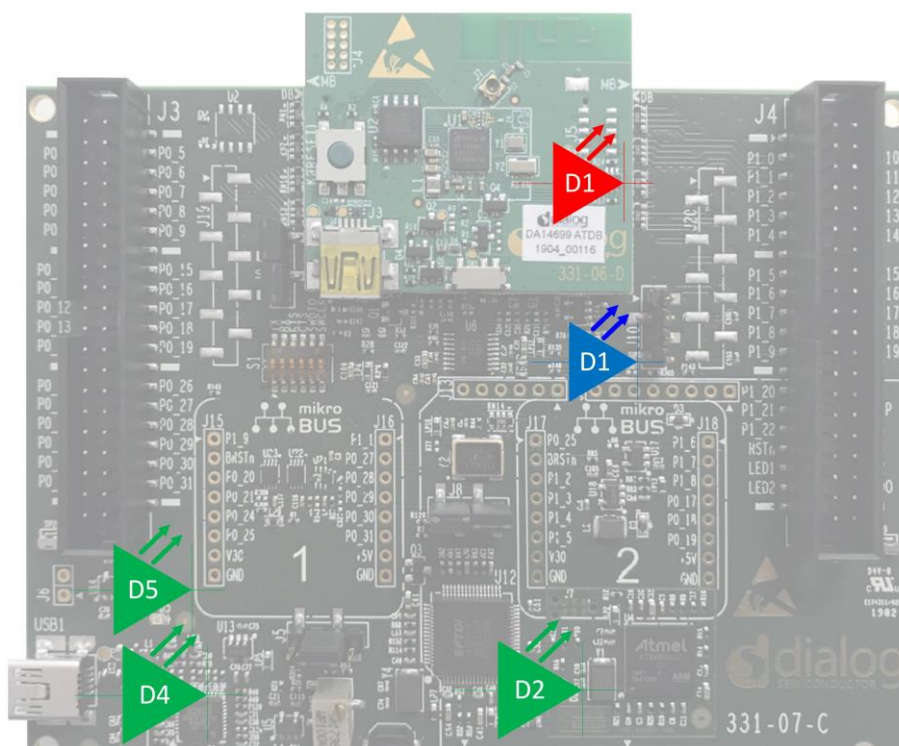

Figure 33: LEDs Status
- **Step 3:** After the ProDK is powered, and If everything works fine then the following LEDs status can be seen as shown **Figure 33**.
- **Step 5** As Feature, alerting is done using the RED LED available on the daughter board, refer to **Figure 33**. You can write value to Alert Level characteristic in Immediate Alert service: